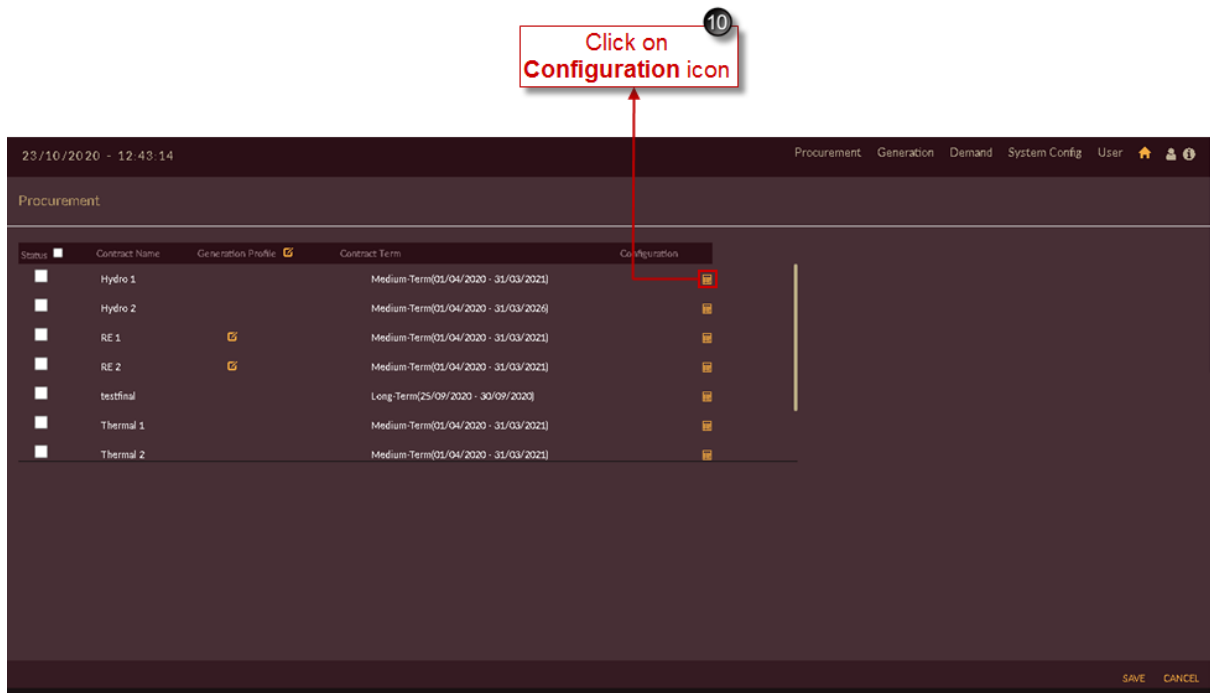

Figure 273. Configuring Contracts for PPO Scenario
10. Click on **Configuration**  icon of respective contract unit/plant to configure it into PPO Basecase scenario. Here Hydro 1 contract unit is selected in Figure 273.